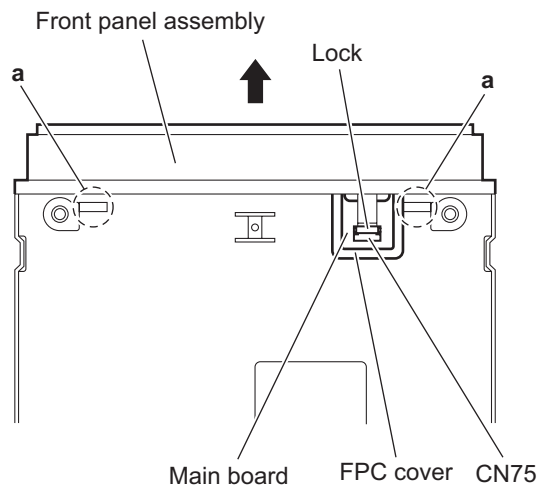

Fig.5
- (2) From the bottom side of the main body, remove the FPC cover. (See Fig.5.)
- (3) Release the lock of the connector **CN75** on the main board and disconnect the card wire. (See Fig.5.)
- (4) Release the joints **a** and remove the front panel assembly from the main body in the direction of the arrow. (See Fig.5.)